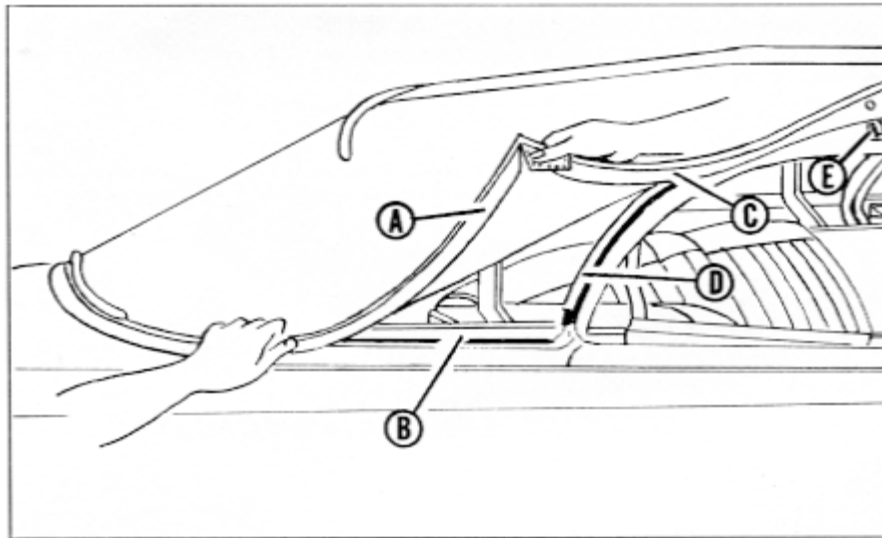

Figure 32
5. With top secured at windshield header, fasten the side quarters of the top by engaging flap (A) under channel (B), Figure 32, starting at the rear end. Continuing forward, enter flap (C) under